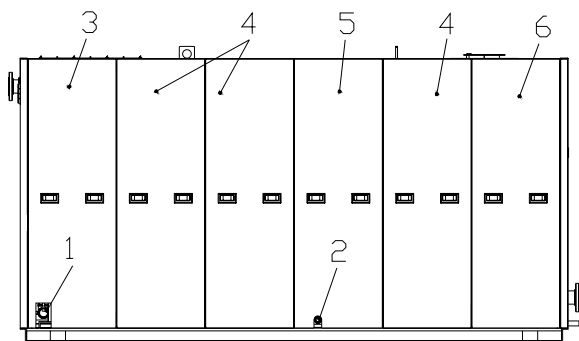
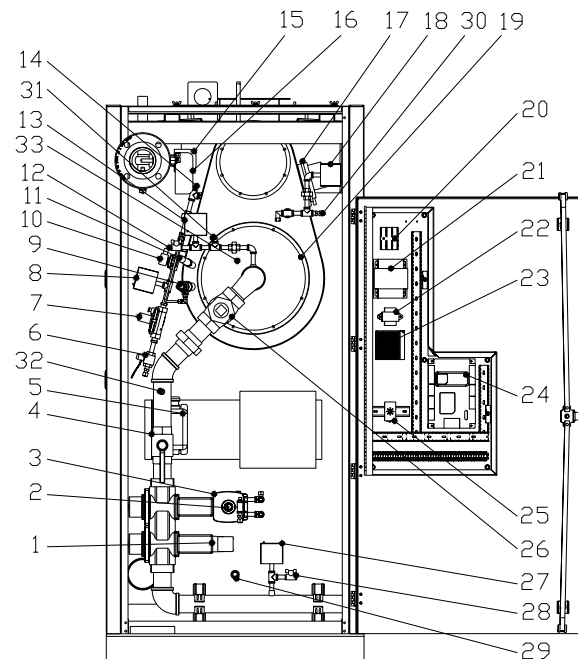

Figure 6 Triple-Flex Right Side View
Figure 7 Triple-Flex Behind the Cabinet Door
3. Main gas pressure regulating and shutoff valve actuator. The pressure regulating actuator provides slow opening fast closing safety shutoff and air/gas ratio control. The actuator controls the pressure difference across the gas limiting orifice valve (Figure 7 item 26) as a function of the pressure difference across the furnace section so that the air to gas ratio remains constant irrespective of air volume changes. There is no need for an upstream constant pressure regulator when the supply gas pressure does not exceed 56 inches of water column. A minimum of 14 inches of water column must be supplied at the gas inlet connection (Figure 6 item 1). The supply pressure can be measured at the test port (Figure 7 item 28).